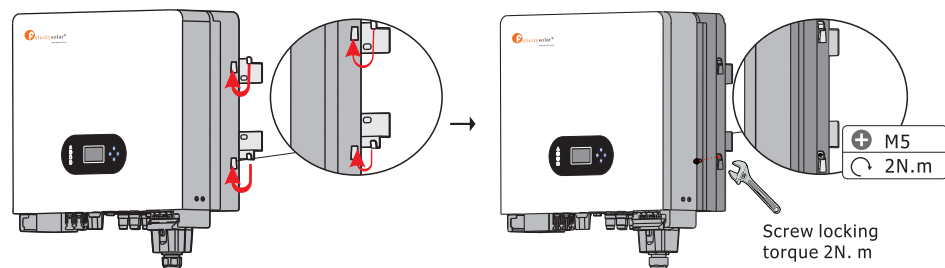

Figure 3.4-2 Installing an Inverter
**Step 2.** Lift the inverter to fix it on the installation bracket, We can prevent theft by locking. See Figure 3.4-2.